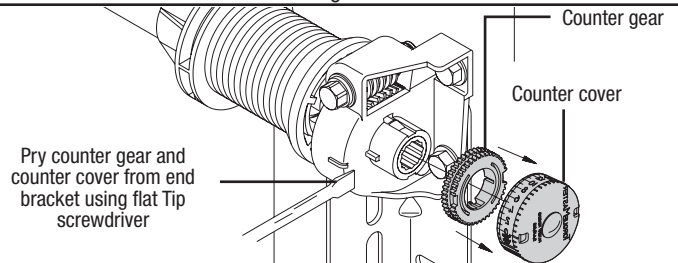
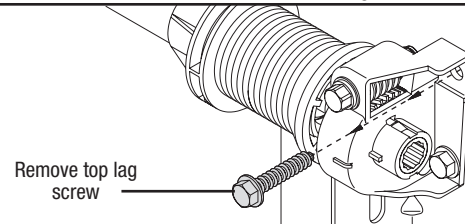
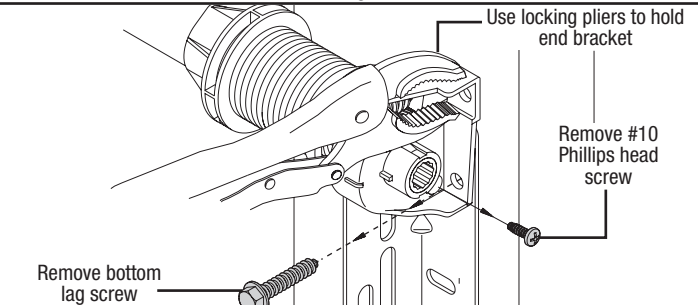

Fig. 4
Fig. 5
Fig. 6
**Step 4:** Starting on the right hand side and using a flat tip screwdriver, pry the counter gear and counter cover from the right hand end bracket (Fig. 4). Discard the counter gear and counter cover. Remove the upper 5/16" x 1-5/8" lag screw from the right hand end bracket (Fig. 5). Next, attach locking pliers to the upper portion of the end bracket and hold the end bracket steady while removing the lower 5/16" x 1-5/8" lag screw and the #10 x 1/2" phillips head screw from the right hand end bracket (Fig. 6).